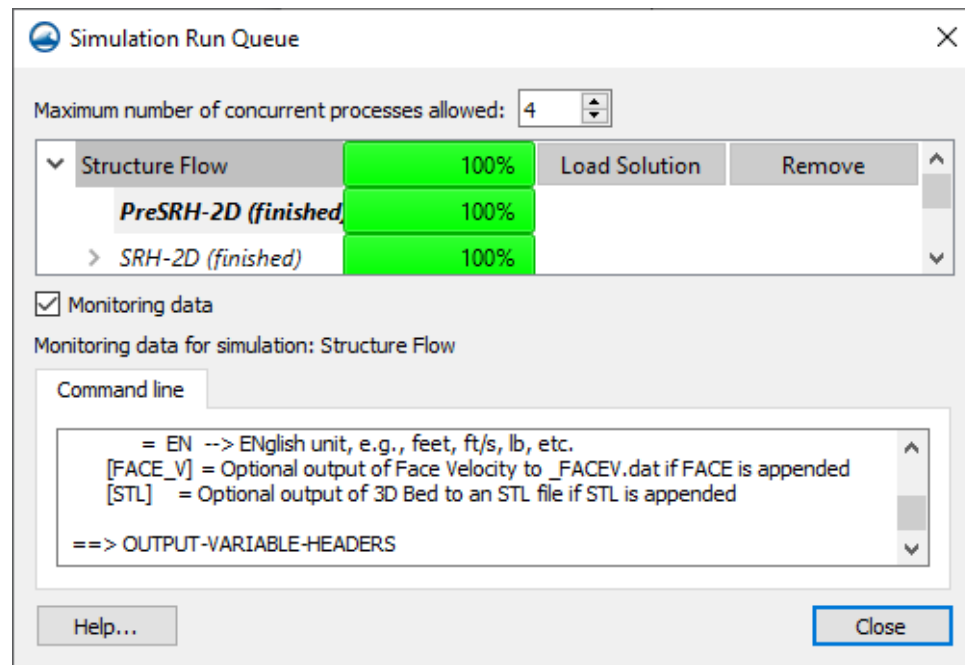

Figure 4 SMS Simulation Run Queue
5. Click **Load Solution**, as shown in Figure 4. The solution datasets will now be listed in the Project Explorer under “ Gila_Mesh”.